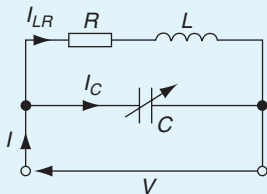

Figure 16.11
6. A parallel circuit as shown in Fig. 16.11 is tuned to resonance by varying capacitance C . Resistance, $R = 30 \Omega$, inductance, $L = 400 \mu\text{H}$, and the supply voltage, $V = 200 \text{ V}$, 5 MHz .